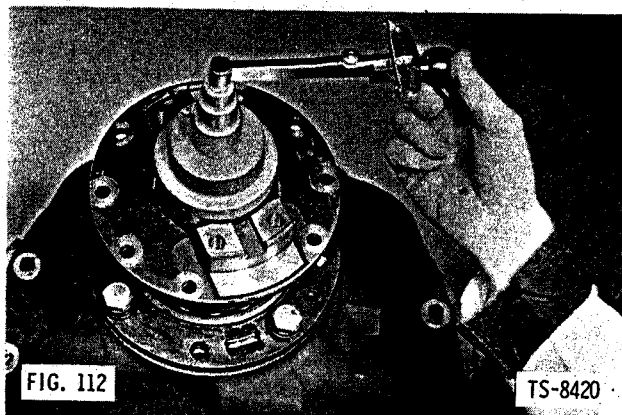

FIG. 112
3. Use inch-pound torque wrench to check bearing preload (Fig. 112). If bearing preload is not between 13 and 23 in.-lbs., disassemble parts and add shims to decrease preload or remove shims to increase preload. When correct preload is attained, remove companion flange and remove seal retainer bolts that are used to hold bearing cage to housing.